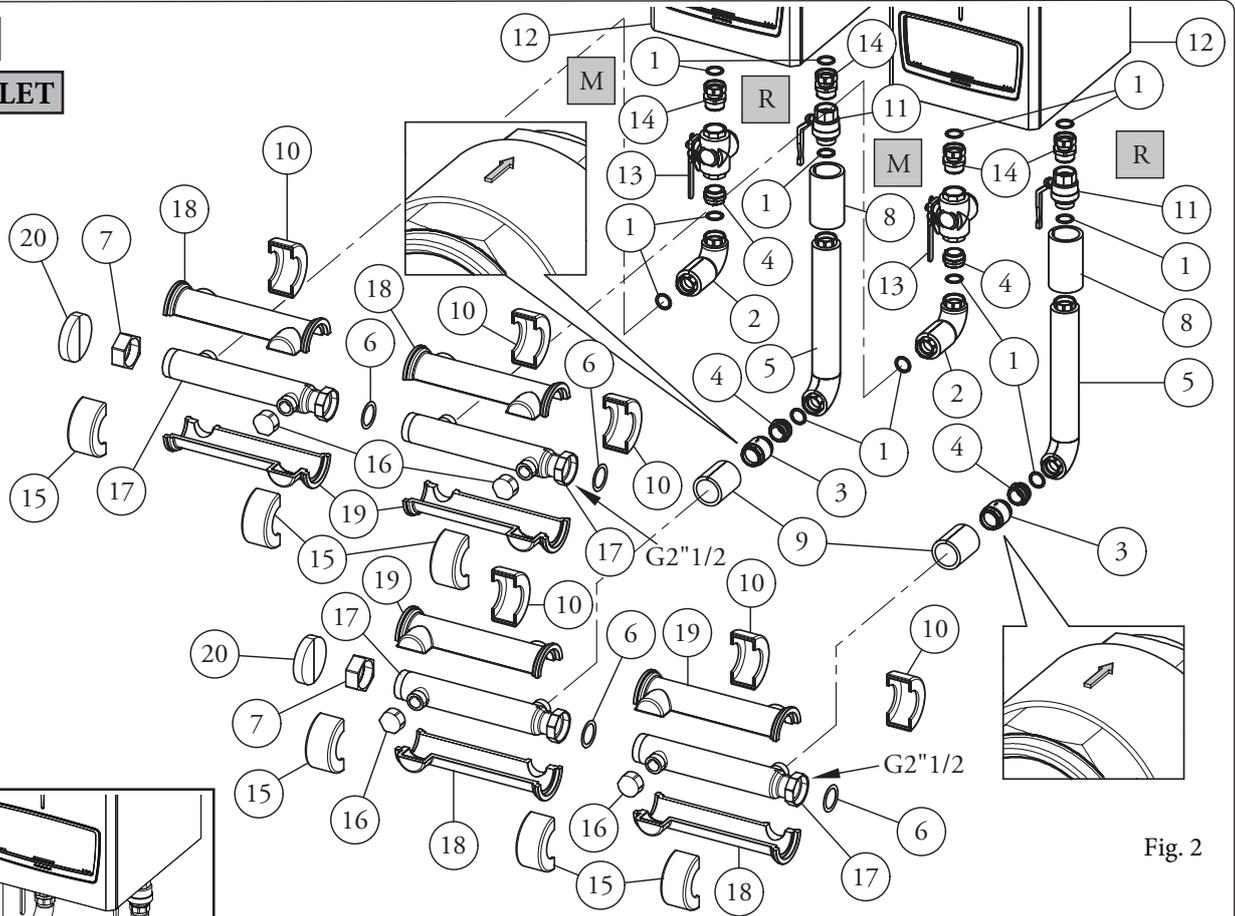

Fig. 2
**N.B.:** montare le valvole (11 e 13) come indicato in fig. 2.
Ad installazione e collaudo effettuati inserire le coibentazioni (8, 9, 10, 15, 18, 19 e 20) sui relativi componenti come rappresentato in Fig. 2.
**Attention:** when installing the check valves (3) make sure that the arrow on their casing faces the rear wall as shown in figure 2. Also make sure to interpose suitable sealing material such as oakum or similar on the connection thread.
**N.B.:** assemble the valves (11 and 13) as shown in fig. 2.
Connect the flow manifolds (17) to the insulated pipes (2) and the return manifolds (17) equipped with check valves to the insulated pipes (5). Make the connection respecting the arrangement shown in figure 2 and interposing the gaskets (1) and (6).
After the 1st temperature test, check the tightness of all the pipes. After installation and testing, insert the insulation (8, 9, 10, 15, 18, 19 and 20) on the relevant components as shown in Fig. 2.